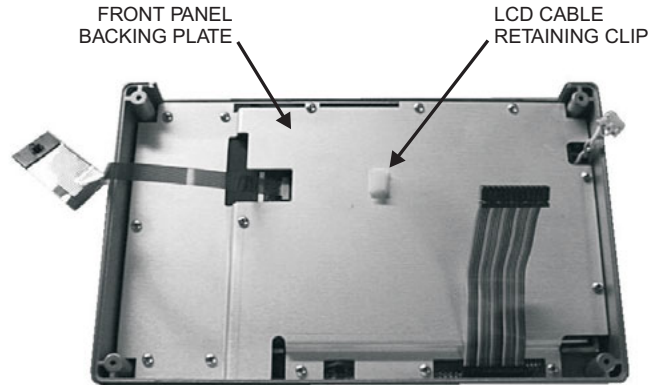

Figure 14. Front Panel Backing Plate
4. Release the LCD display cable from the retaining clip on the front panel backing plate (Figure 14).